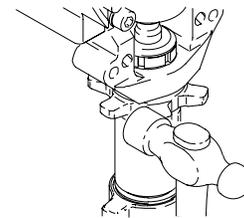

Fig. 10
6. Fig. 10. Loosen locknut by hitting firmly with a 20 oz (maximum) hammer. Unscrew pump.